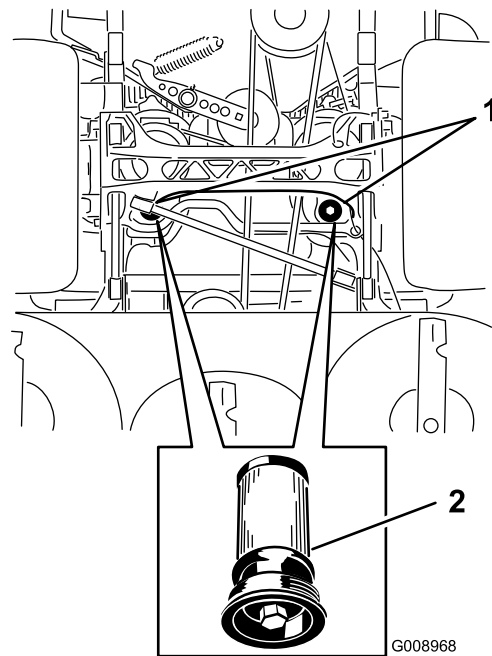

Figure 81
5. Place a drain pan under the filter, remove the old filter, and wipe the surface clean (Figure 81).
6. Apply a thin coat of hydraulic oil to the rubber gasket on the replacement filter (Figure 81).